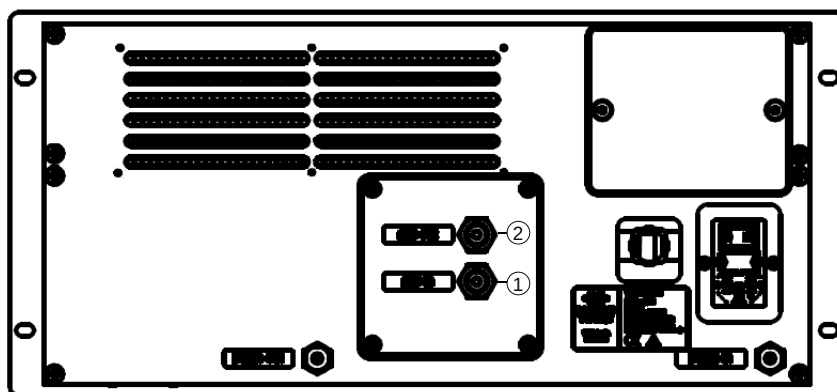

Figure 3.3: Gas inlet and gas outlet
1. At the gas analyzer rear side, rotate the Swagelok¹ standard plugs of the (target) gas inlet (① in figure 3.3) and gas outlet (②) counterclockwise, and remove the plugs.